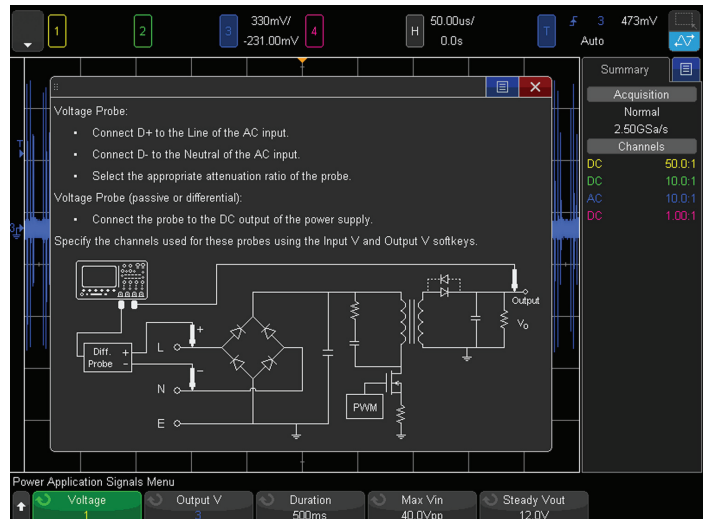

Figure 29: Turn-on/Turn-off connections diagram in the Signals menu
5. Connect the N2790A differential active probe between the scope's channel-1 input to Line (red lead) and Neutral (black lead) as illustrated in the on-screen connections diagram shown in Figure 29. If using Keysight's power training kit, connect to TP2 (red lead) and TP1 (black lead).